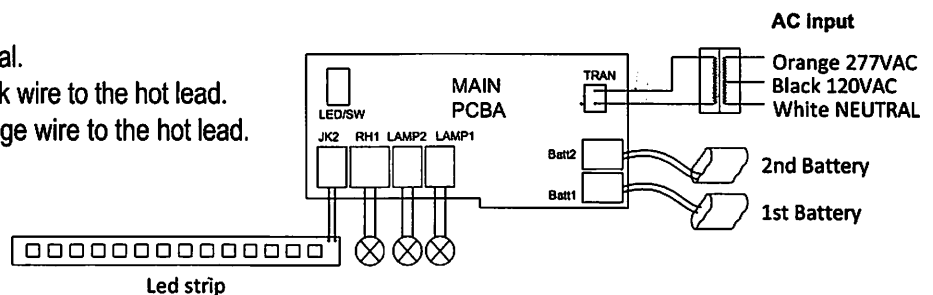

Fig 1
WIRING DIAGRAM (see Fig 1)
5. Make proper electrical connections. If using 120VAC, connect black and white leads to the building utility. If using 277VAC, connect orange and white leads to the building utility. Cap off unused wire.(see Fig 1)